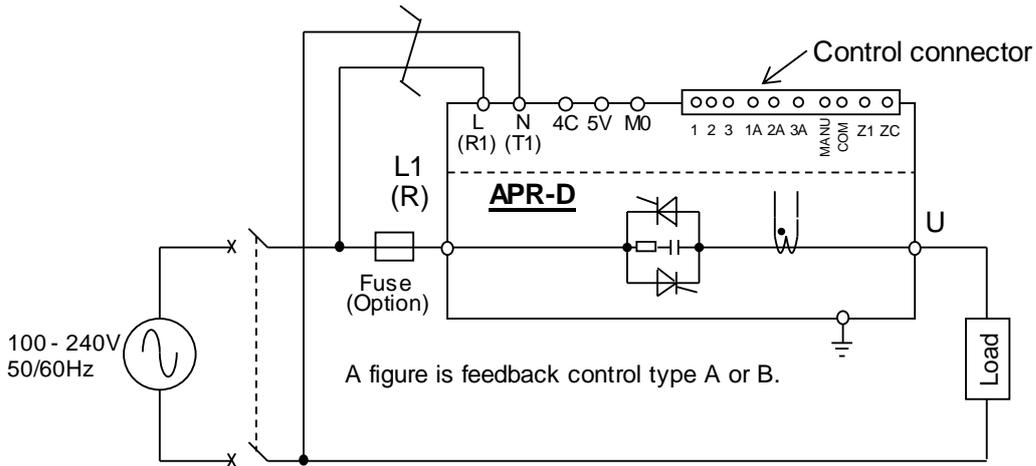

Fig.7-3 External connection diagram (100-240V)
- (1) Use the supplied screws (bolts) for main circuit terminals [L1(R), U]. If screws (bolts) larger than the specified size are used, insufficient insulation from surrounding parts may result. Use an insulation cap for crimp contacts.
- (2) Use crimp contacts with insulation coating when performing wiring to terminals [L (R1), N (T1)], within the control circuit terminal block, and ensure sufficient insulation from adjacent terminals.
- (3) To prevent noise, perform wiring to control circuit terminals [L (R1), N (T1)], allowing sufficient distance from the control power terminals [L1(R), U]. Do not place them in the same duct. If wires are to be crossed, place them so they cross at right angles. Twist wires by signal group (4 to 7 turns/10 cm). If a shielded wire is to be used, connect the shield casing to the earthing terminal, and keep the other end open.
- (4) If a breaker for circuit protection is to be used on the input side of the control power, we recommend you to install it at the position shown by Figs. 7-3, and 7-4.
- (5) After the wiring is completed, return the terminal block cover back to the original position to ensure safety.
- (6) Voltage is generated at the output terminals through the internal snubber circuit even if output is not made from the APR. To prevent electric shock during maintenance and inspection, install a breaker or equivalent devices in the former stage of the APR.
- (7) When performing primary control with a transformer (to be connected between the APR and the load), observe the following to prevent overcurrent, blowing of main fuse, and burns of the transformer due to magnetic deviation of the transformer.
- (8) Wire the control circuit terminal in the same board. When extend to the board outside, insert signal amplifiers midway, and do noise measures.